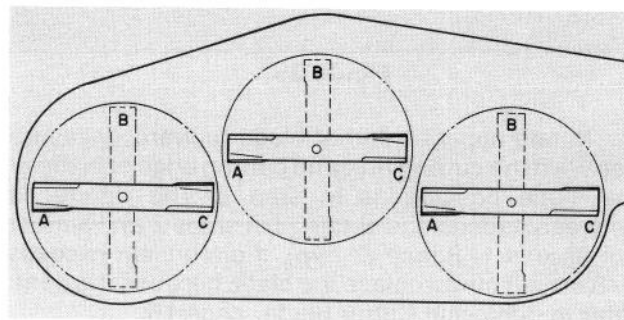
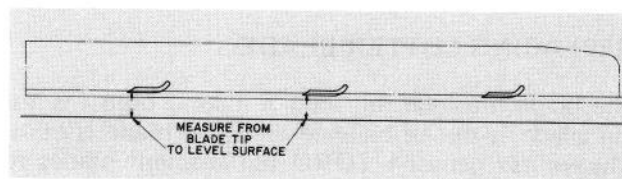
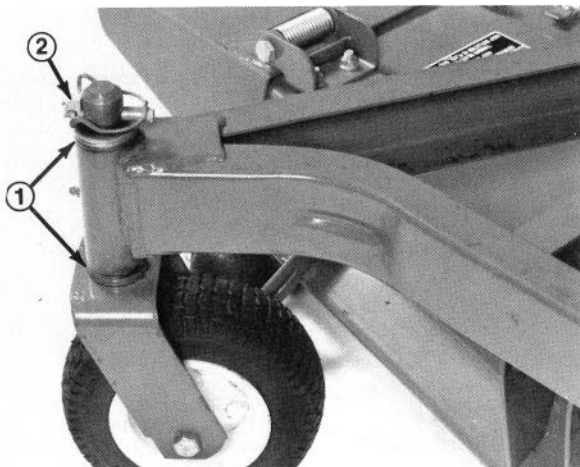

Figure 29
Figure 30
**Figure 31**
2. Raise height-of-cut to 4 in. (102 mm) position (Fig. 31); refer to Adjusting Height-Of-Cut, page 9.
5. Position all three blades in the "A" position (Fig. 31) and measure from level surface to the bottom of the tip end of each blade (Fig. 30).
6. Note measurement attained at "A", rotate blades to "B" position (Fig. 29), measure distance of all blades to level surface and note dimensions (Fig. 30).
7. Rotate blades to "C" position, measure and note distance measured (Fig. 29, 30).